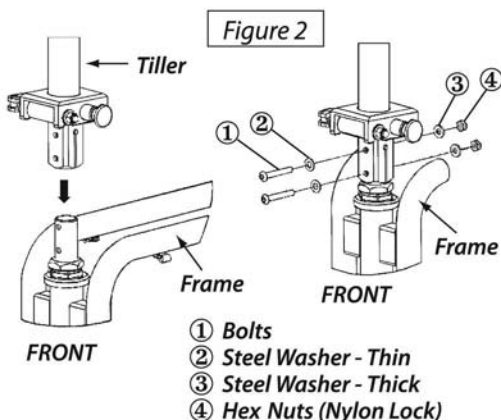

Figure 2
The Tiller with Handle Bar is shipped unassembled with brake cables connecting the tiller and frame. Slip the Tiller over the front bracket; make sure the angled Handle Bar points toward the knee rest. Slip the Thin Washer ② onto each Bolt ① and insert Bolts through holes in bracket. Install Thick Washer ③ onto protruding Bolts ① and tighten assembly with nylon locking Hex Nuts ④ as shown in Figure 2, using #4 Allen Wrench (provided) and adjustable wrench. Adjust Handle Bar up or down by removing the Knob and Screw from the hole in the Tiller and insert the Screw back in the hole at desired height. Tighten the Knob. Make sure the Knob is fully tightened.